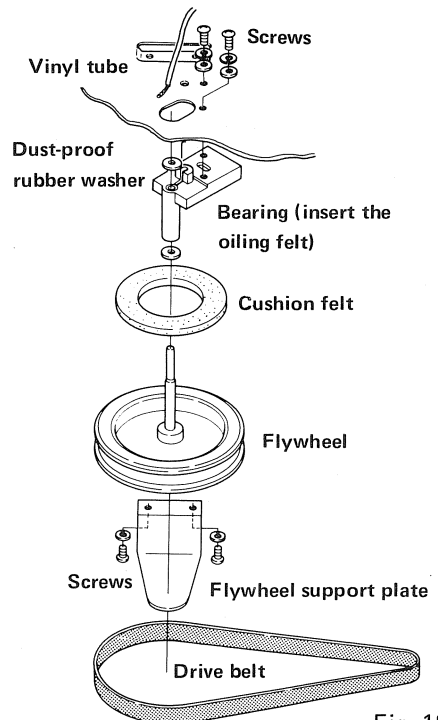

Fig. 18
2. Unscrew the two screws from the flywheel support plate (Fig. 18).